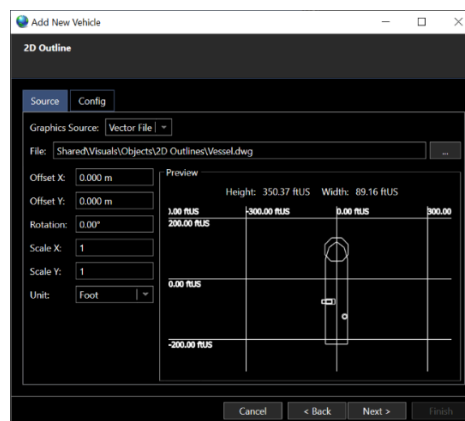

FIGURE 7-8 VEHICLES - NEW VEHICLE WIZARD – 2D OUTLINE PAGE – IMPORTED OUTLINE FILE
- C. The shape will display in the preview window. See Figure 7-8